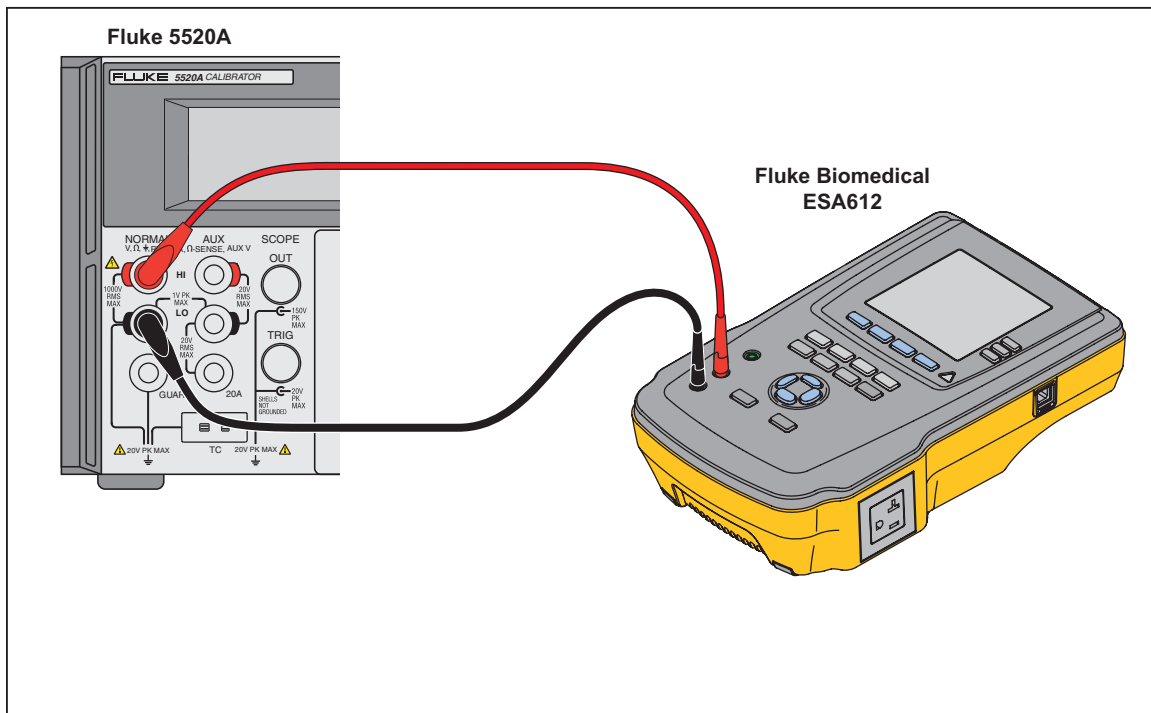

Figure 3-4. Point to Point Voltage Verification Connections
7. Connect the Normal Outputs of the calibrator to the red and black jacks on the Analyzer as shown in Figure 3-4. Set the calibrator to 1 V, 120 Hz, and set the calibrator to OPR.